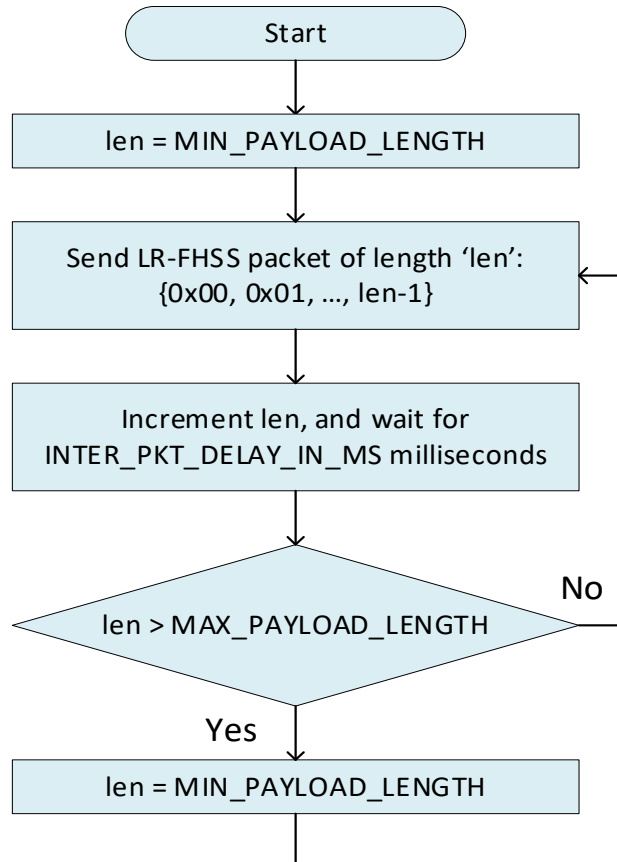

Figure 3: xxxxxx_lr_fhss_ping Demo Application Program Flow
The SX126x and LR11xx demos are part of a Keil project that compiles and runs on STM32L476 Nucleo boards, and periodically sends LR-FHSS packets of different lengths as shown in Figure 3.
- Start the Figure 3 demo by calling `sxlib_demo_launcher()`, which is found in the `xxxxxx_lr_fhss_ping_start.c` file. This file, and all the other application logic related to this flowchart, can be found in the files of the Keil project group named `demo_xxxxxx_lr_fhss_ping`.